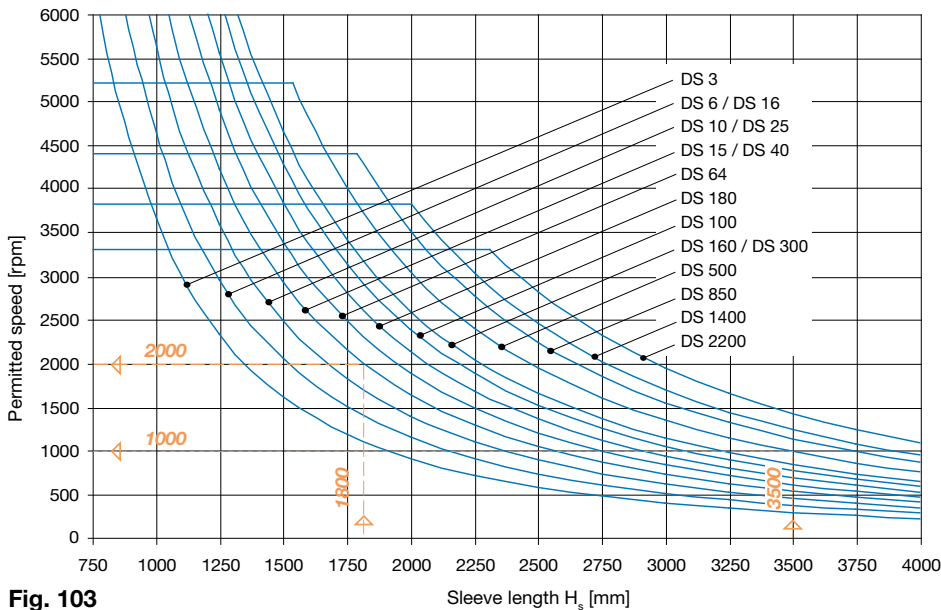

Fig. 103
Permitted Speeds (Critical Bending Speeds) on Sleeve S, CRD Sleeve, CFRP Sleeve (Figs. 103, 104, 105)
Examples (Fig. 103)
- Please operate designs with sleeve S, CRD sleeves and CFRP sleeves at subcritical levels (see Figs. 103, 104 and 105).